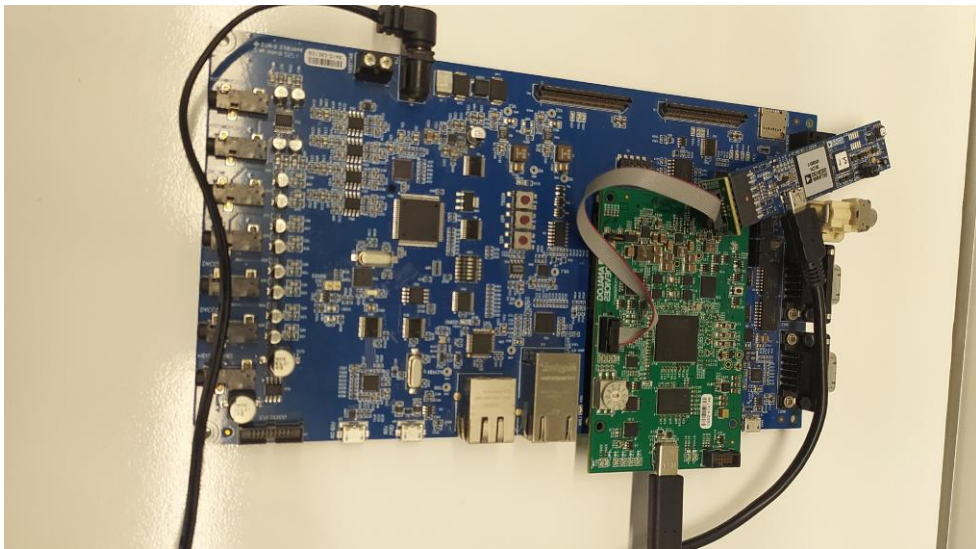

Figure 1: ADSP- SC835 board connections
- 1) Connect the ADSP-SC835 board to the EV-SOMCRR-EZKIT as in the Figure 1.
- 2) Connect the ICE-1000 or ICE-2000 to the 'JTAG' connection (Refer to Figure 1) and the other end to one of the PC's USB ports.
- 3) Connect the USB Type C connector to the ADSP- SC835 board (refer to Figure 1) and the other end to one of the PC's USB ports.